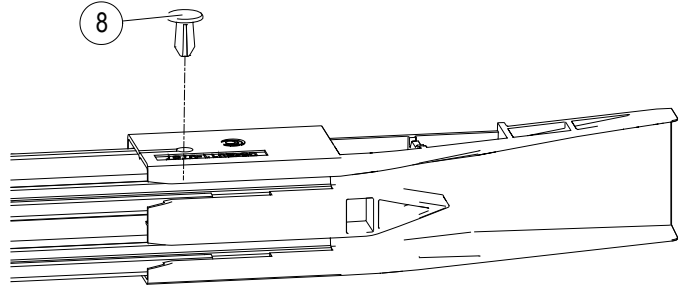

Fig. 22: Tap expanding rivet into hole
- Tap the expanding rivet into the hole with a plastic hammer (see Fig. 22).